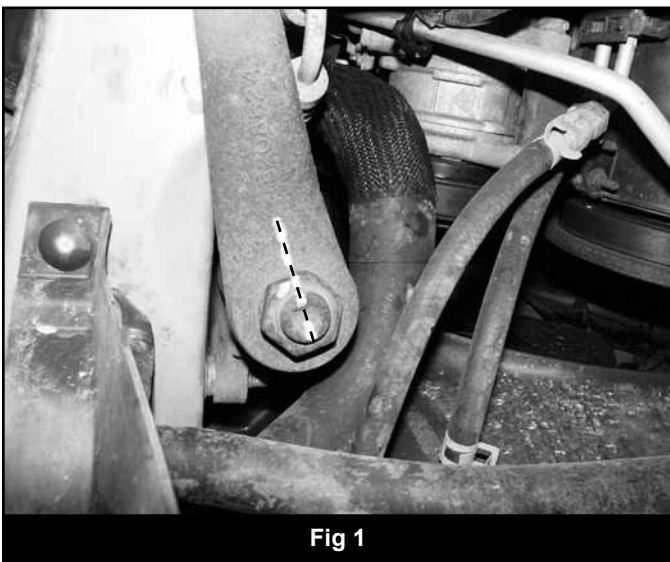

Fig 1
3. **Important: Make an indexing mark on the pitman arm and steering box sector shaft to indicate the relationship between the two for installation (Fig 1).** Remove the pitman arm nut and washer. Using a pitman arm puller remove the pitman arm from the sector shaft.